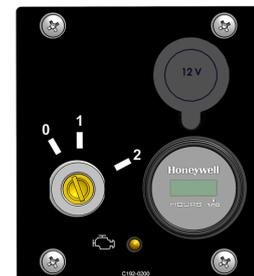

Figure 15 - Control Panel
2. Insert the ignition key in the control panel and turn to position 1 for 5 seconds (Figure 15).
3. Confirm that the MIL illuminates continuously (Figure 15).
4. Turn the ignition key to the start position (2) (Figure 15).